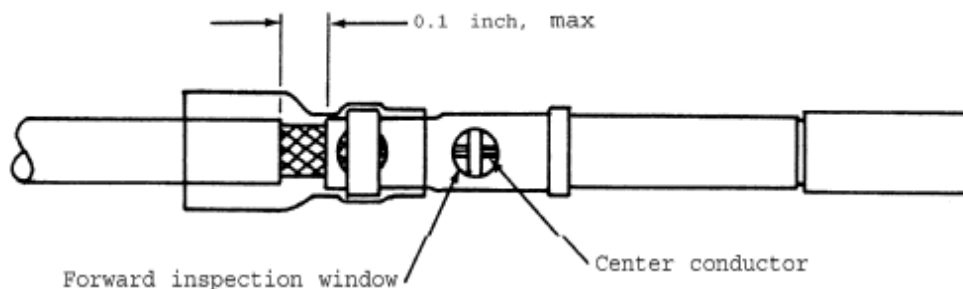

Figure 5-5. Inspection for proper cable insertion
3. Inspect for proper insertion (Figure 5-5).